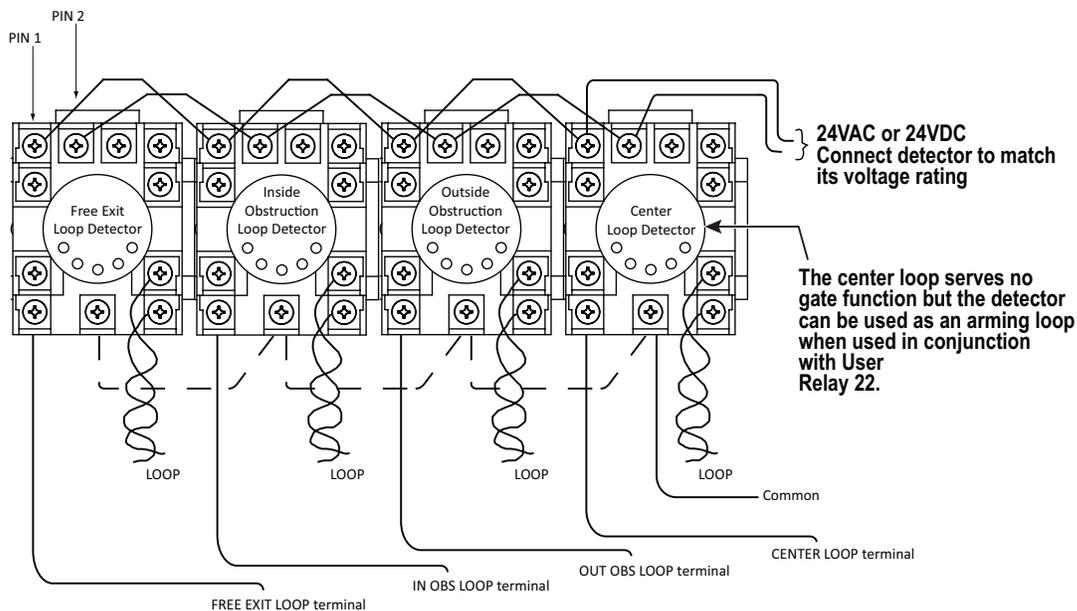

Figure 53. Standard 11-Pin Box Type Vehicle Detector
If there is sufficient space, install the sockets in the control box; if not, then install them in a separate external housing. Carefully consider your peripheral connections. Any peripheral device required for safe gate operation should be attached 24VDC in case of an AC power outage. Figure 53 is for general reference only.
3. If multiple detectors are used, route the power wires and common wire from socket to socket (daisy chaining) rather than individually running each wire to the same location. See Figure 53. The only wires that are separate are the output wire to the Smart DC Controller and the detector loop input wires.